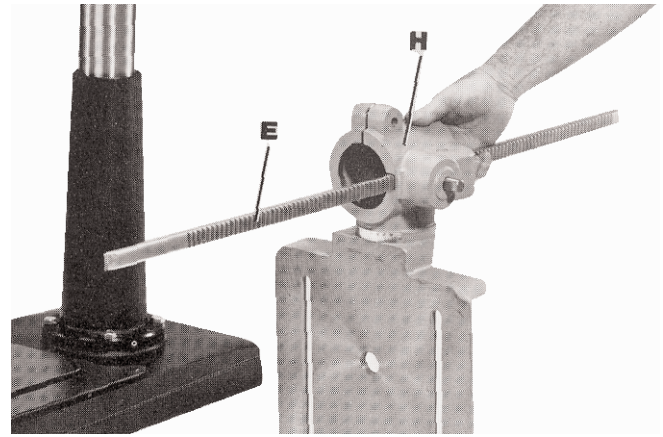

Fig. 5
4. Insert raising rack (E) Fig. 5, which was removed in STEP 2, into groove in table bracket (H) making sure gear inside table bracket is engaged with teeth of raising rack.